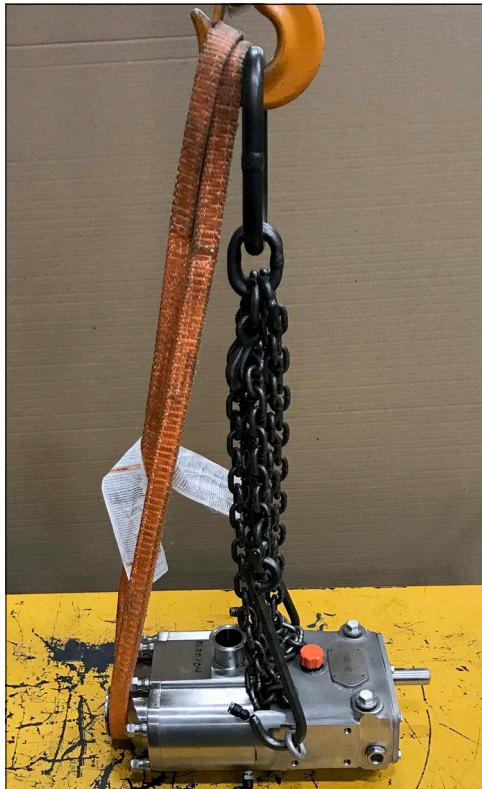

Figure 1 - Lifting location - 015, 030-UTS
- On the 015-UTS, and 030-UTS (Figure 1 and Figure 2), attach straps/chains to the two eye bolts on either side of the gear case, and slide a strap under the horizontal port on the cover.